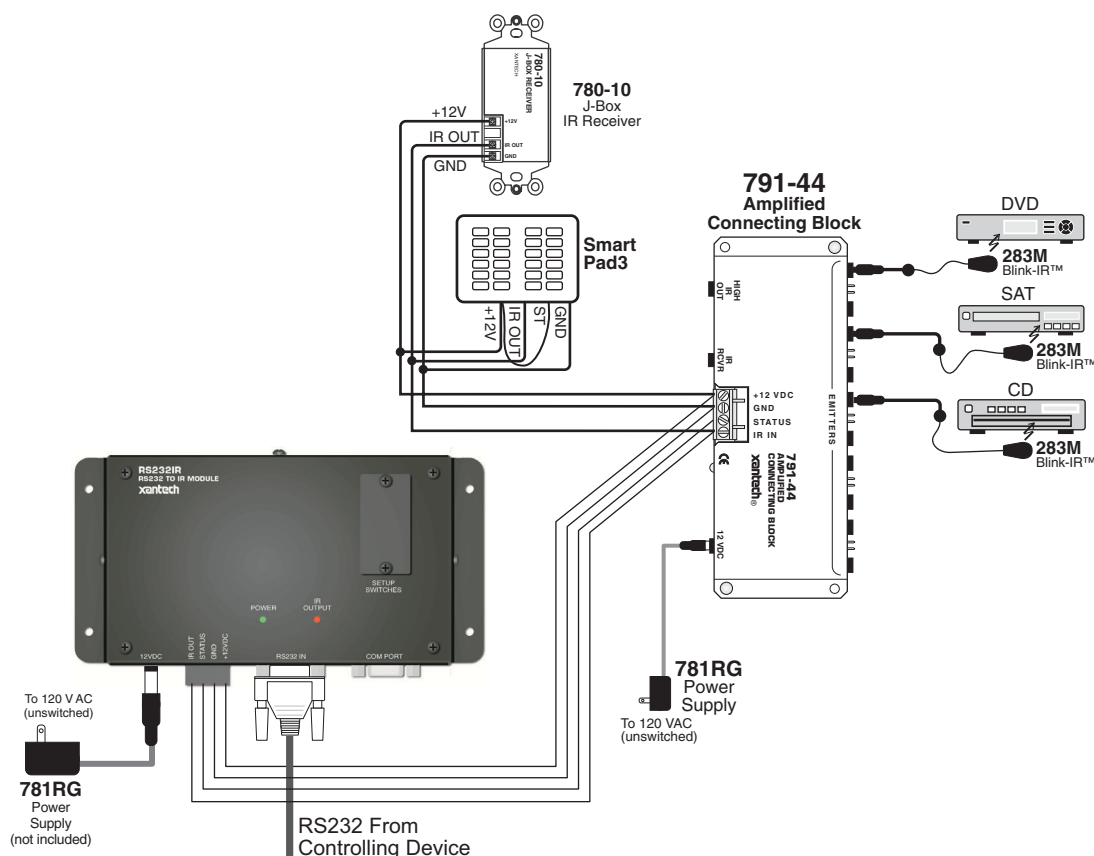

Figure 2 – Typical Basic System
2. Connect the OUTPUT of the RS232IR to be programmed to the product to be controlled to test commands. **Figure 2** shows connections to a typical basic system.